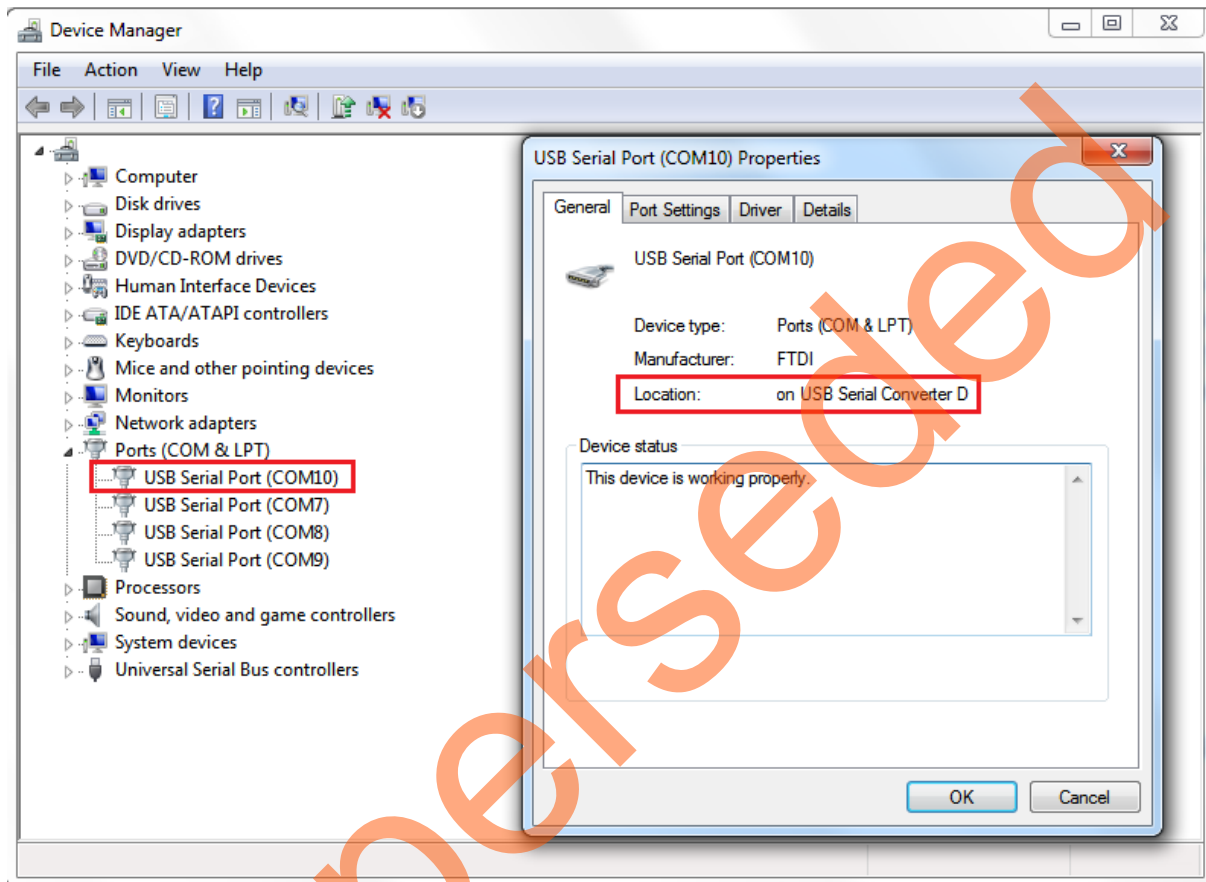

Figure 15 • USB Serial 2.0 Port Properties
5. Ensure that the USB to UART bridge drivers are automatically detected. This can be verified in the **Device Manager** of the Host PC. The FTDI USB to UART converter enumerates four COM ports. For USB 2.0, note down the USB Serial Converter D COM port number to use it in the GUI. Figure 15 shows the USB 2.0 Serial port properties. As shown in Figure 15, COM10 is connected to USB Serial Converter D. Refer to "Appendix B: Finding Correct COM Port Number when Using USB 3.0" on page 32 for finding the correct COM port in USB 3.0.